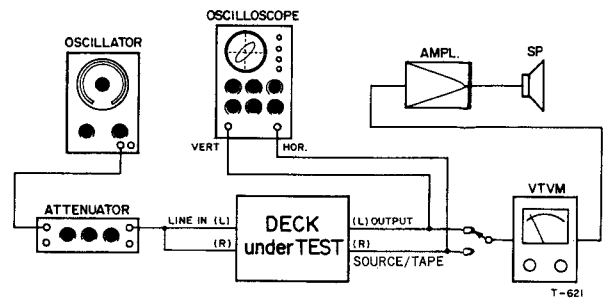

Fig. 10-11 Test Connections for Recording Check
7. Connect a VTVM to the OUTPUT jack and an AF oscillator to the LINE IN jack. (Fig. 10-11). Set the oscillator to 10 kHz at  $-18$  dB (97 mV).